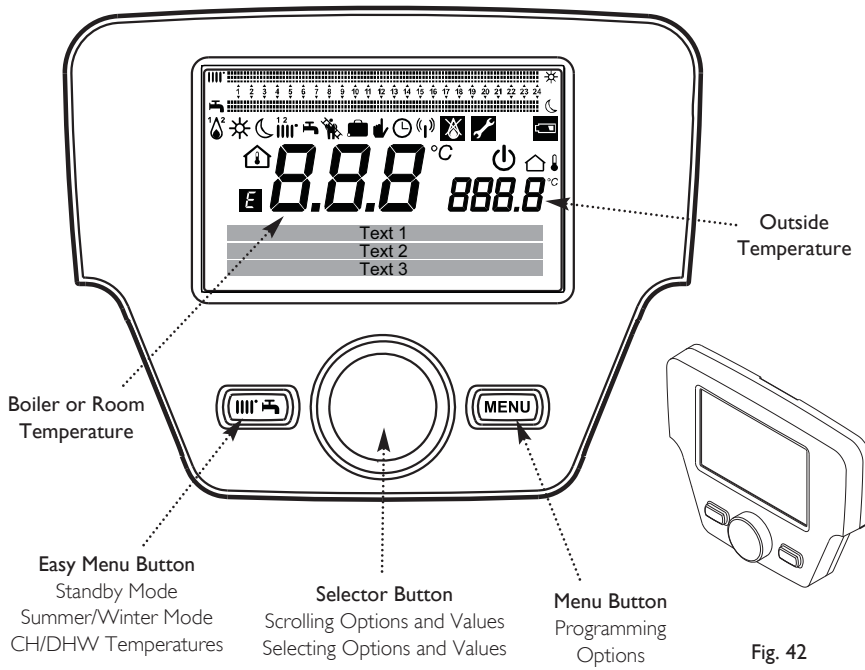

Fig. 42
### 10.12 THINK Controller, 5 LED Receiver and Wall Cradle Accessory (Figs. 42 & 43)
3. Press the menu button repeatedly until the standard screen is available. The Programmable Room Unit symbol should be shown on the screen if the THINK Controller has been configured correctly, see Fig. 42.
6. When correctly connected and once the 'Save sensor' procedure has been done (See Section 11.4), the outside temperature and icon will be display on the THINK Controller (See Section 10.12 and Fig 42).